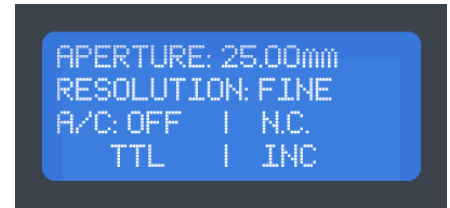

Fig. 21
1. Press the "IRIS INPUT MODE" () button once. Upon pressing this button, the Iris Status screen will indicate the TTL iris input mode that the AIC10 is in. It will read either "TOG" or "INC" (Fig. 21).